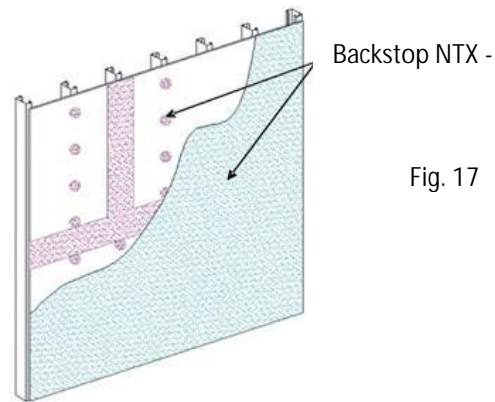

Fig. 17
- 3) Use a coarse, open-cell foam roller cover with a 3/8 in (9.5 mm) foam nap (FoamPRO #58 roller). Apply a uniform, continuous film of Backstop NTX – Texture over the entire surface of the sheathing, concrete or masonry, including the previously treated areas – Figure 17.
- 4) While Backstop NTX - Texture is still wet, using a trowel or spatula, smooth out the Backstop NTX -Texture around all window and door perimeters and other areas – Figure 17.